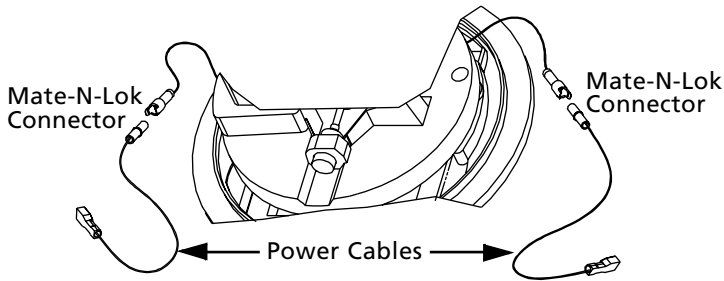

Figure 28. Attaching Power Cables to AMR Ready Meter
4. If your meter is AMR Ready, attach the power cables to the meter using the Mate-N-Lok connectors. See Figure 28.